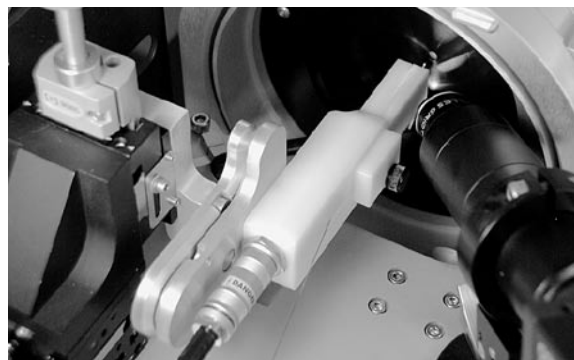

Figure 5.9: CTM assembly positioned correctly
- 2) Place the magnetic stage back onto the XYZ stage as shown in Figure 5.9.